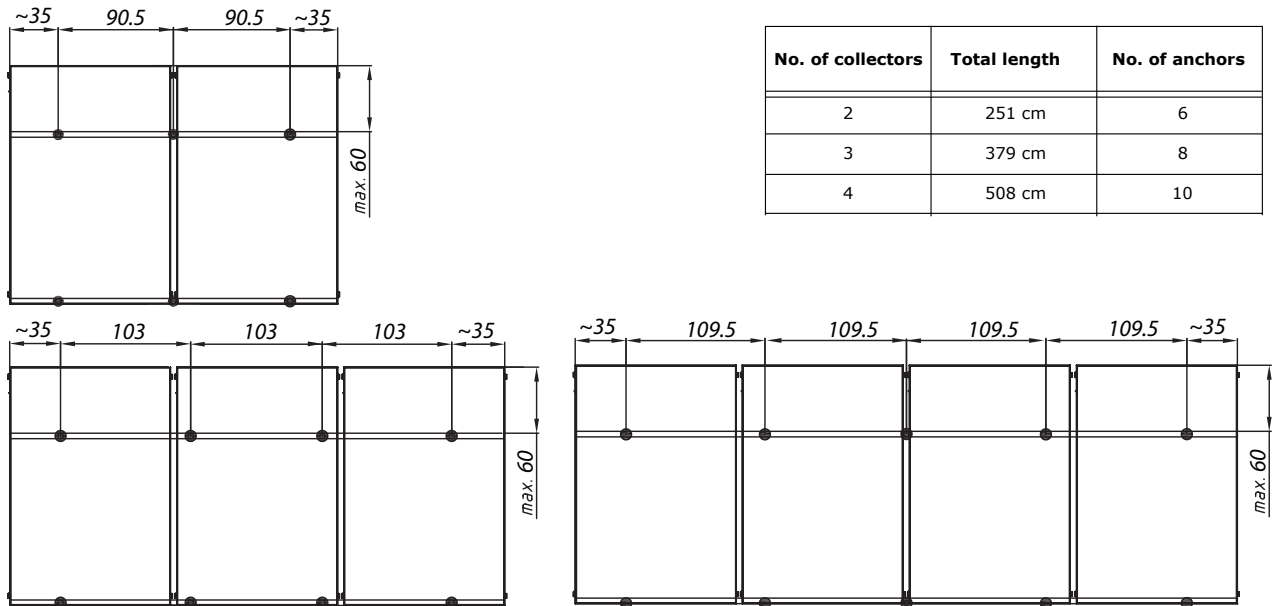

Fig. 2: Layout of roof anchors
- Fix the auxiliary boards to battens so that the distribution of anchors resembles the positions in Fig. 2. At the same time screw the boards so high that the roof anchor does not hinder placing the roof tile with the
- Hang the roof anchors onto the auxiliary board respecting their distribution shown in Fig. 2.
- Remove roofing in places where anchors shall be fixed (Fig. 6). The distance "a" between anchors is defined in Fig. 2.
- Depending on the number of collectors, measure and calculate the positions for fixing roof anchors (Fig. 2). Such places shall be selected for mounting where anchors can be fixed sufficiently into the roof frame (rafter or similar).